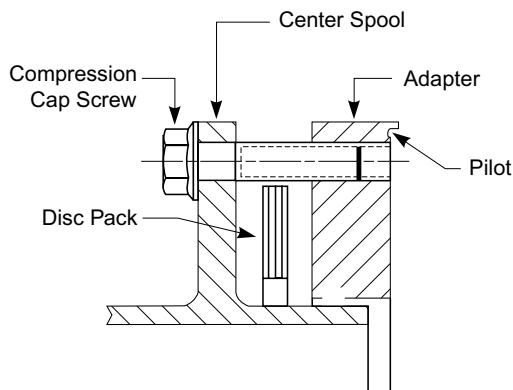

Figure 10 - Compression positioning.
9.3. On sizes 150 through 600, use the cap screws (provided in the coupling hubs) to compress the center member assembly by inserting them through the holes in the flanges of the center spool and threading them into the adapter tapped holes as shown in Figure 10. On sizes 712 through 1038, cap screws (defined in Table 1A) are provided to compress the center member subassembly. These cap screws may be used to compress the center member subassembly, but they are not used to fasten the center member subassembly to the end hubs.